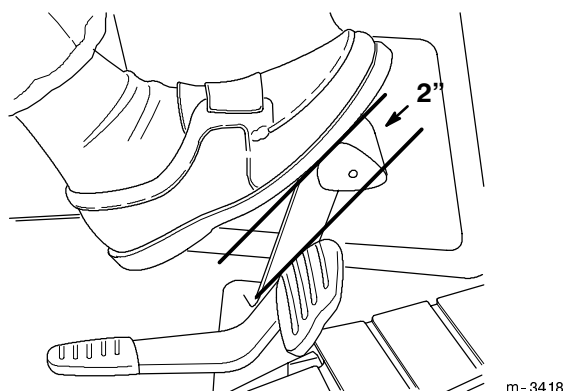

Figure 34
3. Depress the brake pedal. There should be 2" (51 mm) of free travel (Fig. 34) before the brake begins to engage.